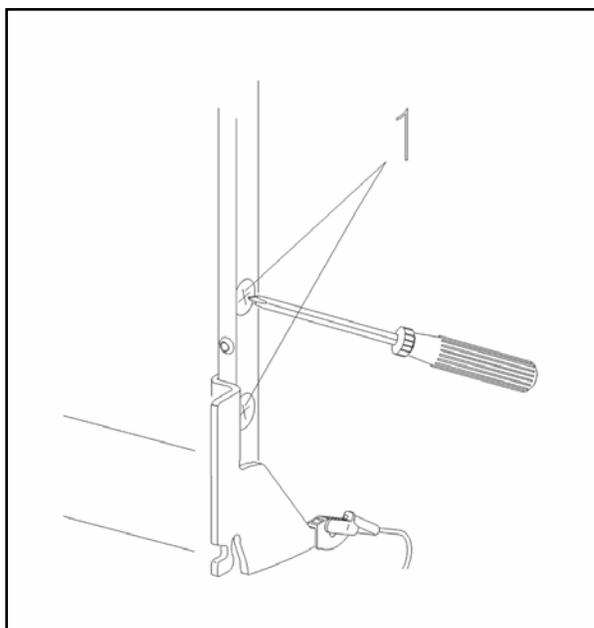

Figure 5-11: Side Hinge Retaining Screw
13. Remove the side door hinge retaining screws (Figure 5-11 - Item 1).